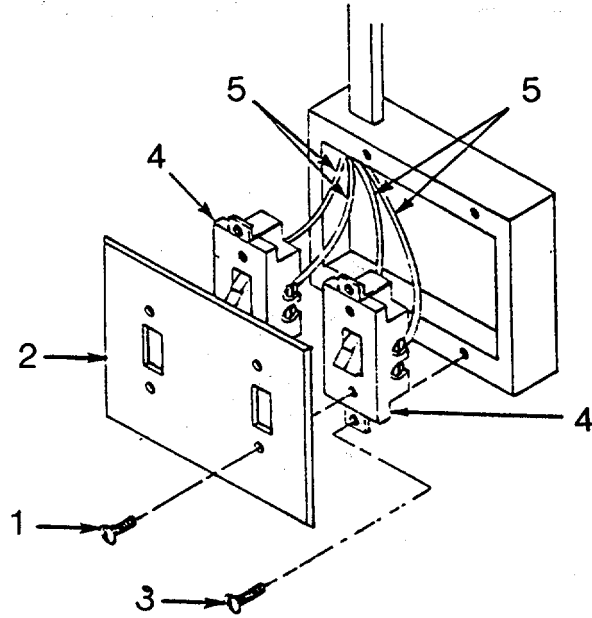

Figure 4-54. Wall Lamp Switch (Double)
c. Replace Wall Lamp Switch (Double). (See Figure 4-54.)
- (1) Remove darkroom wall lamp switch screws (1) and cover (2).
- (2) Remove darkroom wall lamp switch screws (3).
- (3) Pull darkroom wall lamp switches (4) from switch-box.
- (4) Tag darkroom wall lamp switch wires (5) and disconnect.
- (5) Connect darkroom wall lamp switch wires (5) to switch (4) and remove tags.
- (6) Install darkroom wall lamp switch (4) in switch-box and secure with wall lamp switch screws (3).
- (7) Install darkroom wall lamp switch cover (2) and secure with screws (1).
- c. Replace Wall Lamp Switch (Double). - Continued. (See Figure 4-54.)